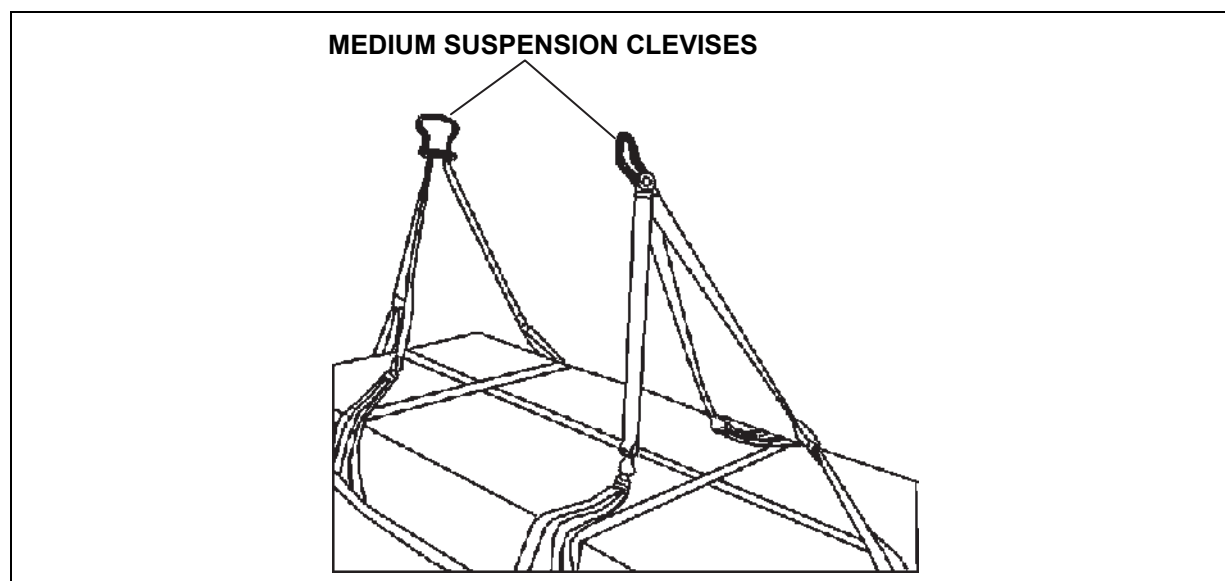

Figure 8-16. Suspension Webs and Clevises Installed
- Attach a suspension web to each of the six D-rings of the sling assembly. Attach a medium suspension clevis to the front set of three suspension web D-rings and a medium suspension clevis to the rear set of three D-rings (figure 8-16).